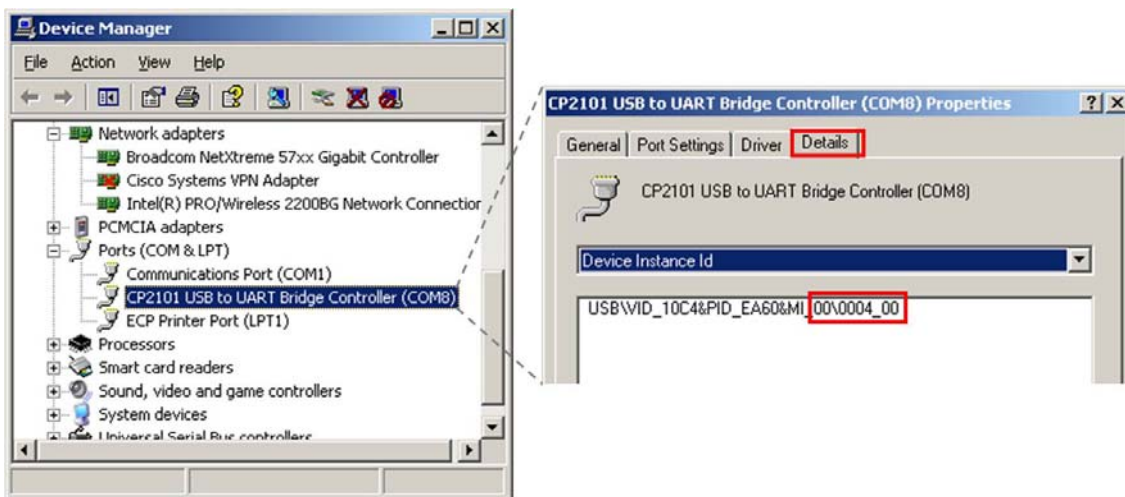

Figure 18 – Screen, Device Manager (Checking ID # Change)
- 7) Under the ‘Details’ Tab, the new ID number will be displayed as shown in Figure 18.